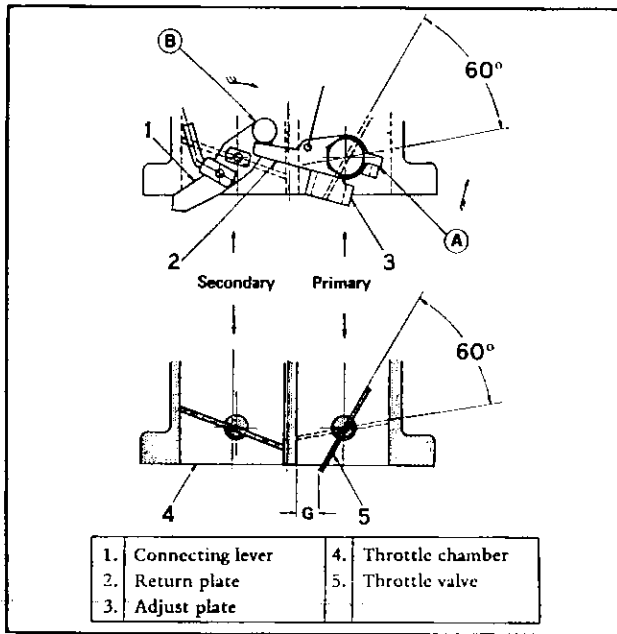

Fig. EF-29 Model DAK340 carburetor
Figure EF-29 shows the primary throttle valve opened 60° . When the adjust plate fixed to the primary throttle valve is open 60° , it comes to contact with the connecting lever at (A). When the throttle valve is further opened, the point (B), where the connecting lever is in contact with the stopper, is detached, permitting the secondary system to start actuating.